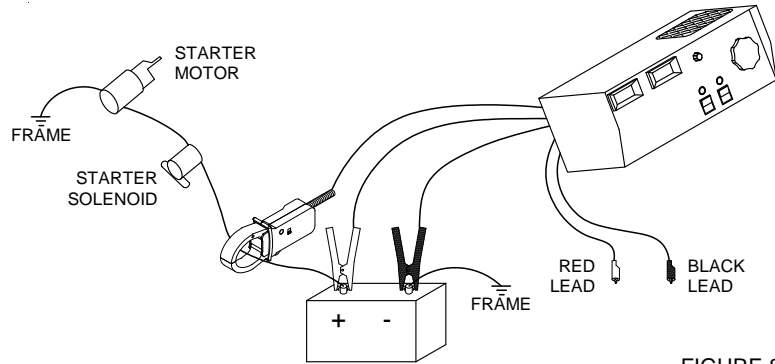

FIGURE 8
- Current draw of the starter, battery voltage, and voltage drop of leads can be measured when connected as shown (See figure 8).